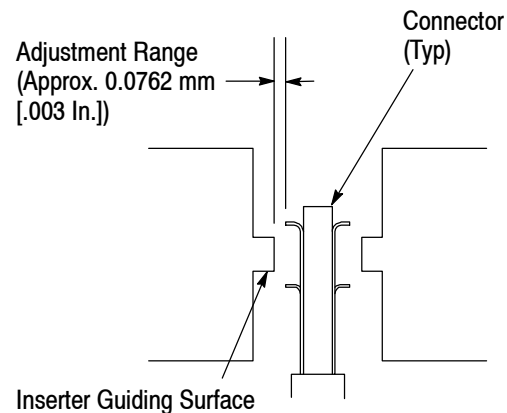

Figure 5
6. Check that the inserter guiding surface is within the adjustment area, as shown in Figure 5.